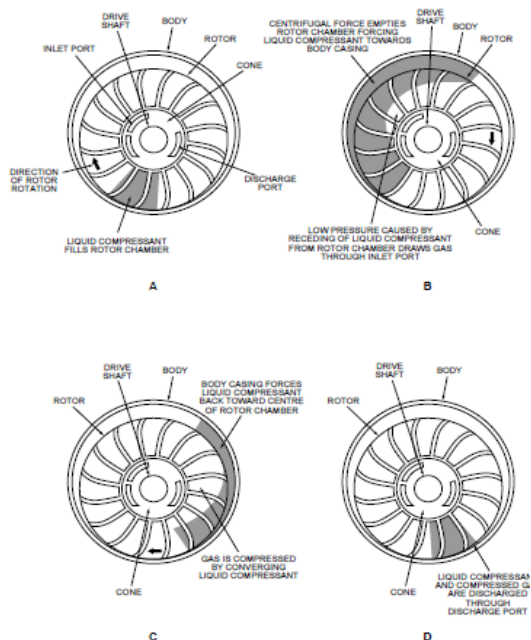

Fig. 1.2 Liquid Compressant and Air Flow
b. In Figure 1.2, the pump's sequential actions are illustrated. These actions are facilitated by the offset axis of the body casing from the rotor axis. The rotational motion of the liquid within the pump functions as a compressant for the gas, and the liquid also serves as a seal, preventing gas leakage into the atmosphere.